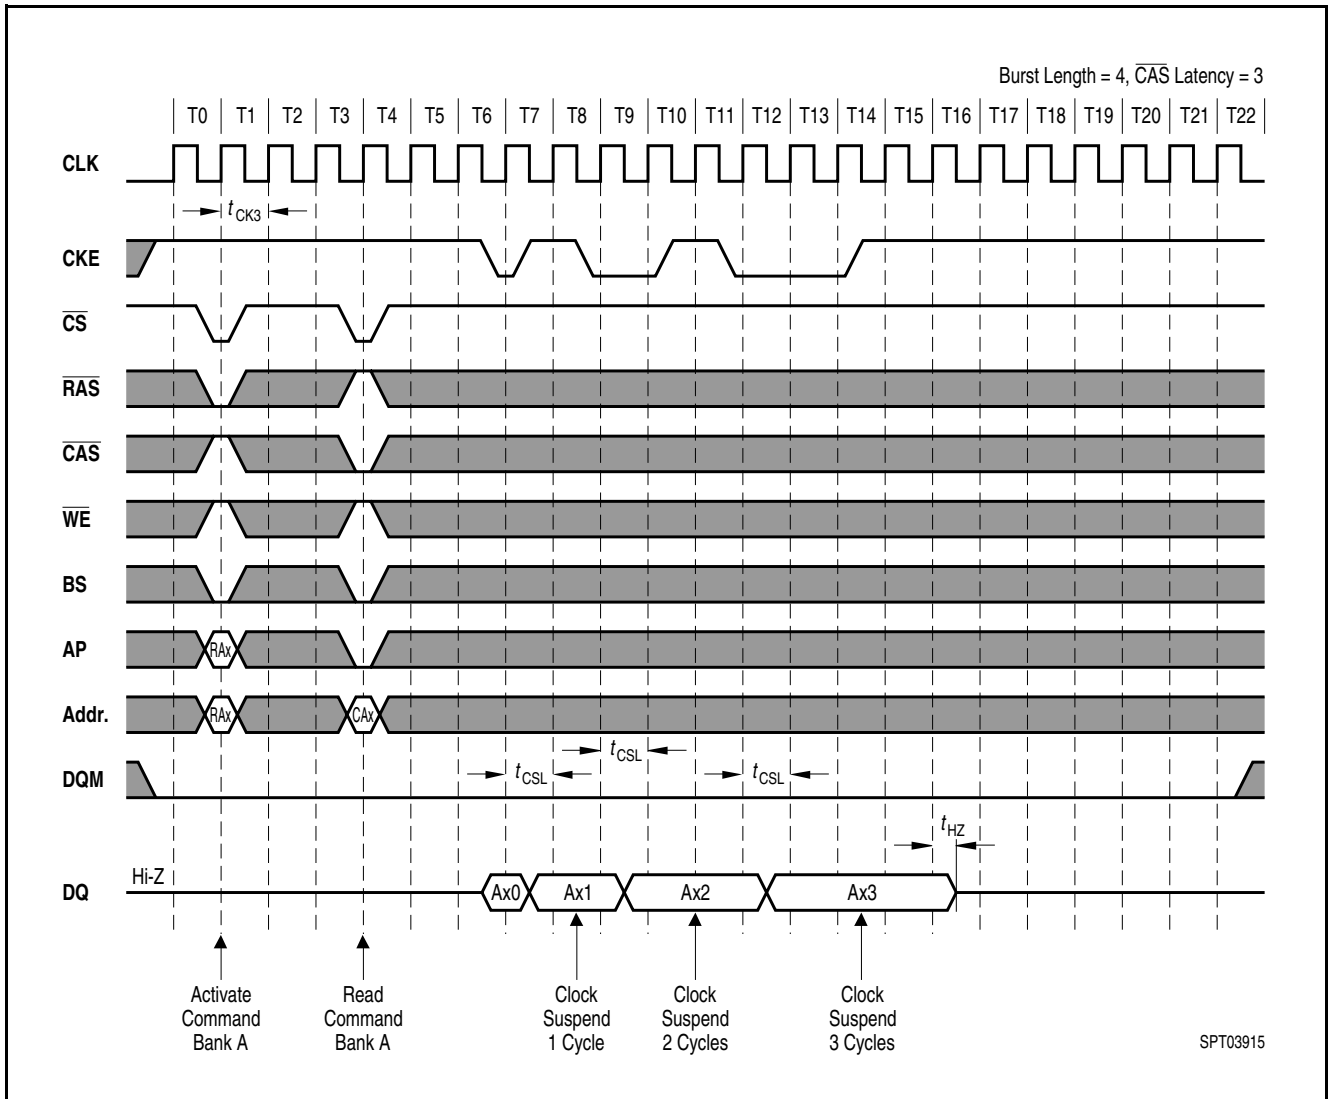

Figure 21 Clock Suspension During Burst Read CAS Latency = 3
- **Figure 21** Clock Suspension During Burst Read CAS Latency = 3